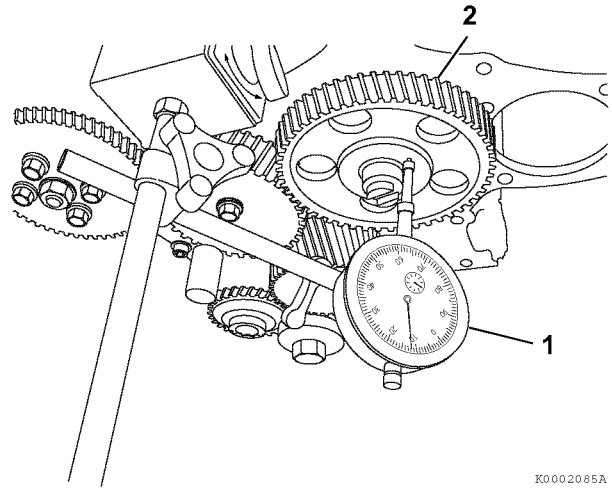

Figure 6-95
- **Method A:** Install a dial indicator (1, **Figure 6-95**) on the cylinder block. Move the camshaft (2, **Figure 6-95**) back and forth to measure the end play. Record the measurement. See *Camshaft* on page 6-8 for the service limit.